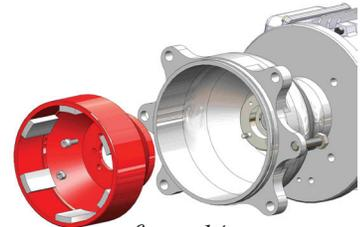

figure 14
**⚠ WARNING:** This pump should only be disassembled and assembled using the recommended procedures. The magnetic attraction is powerful enough to rapidly pull the motor end and the wet end together. ALWAYS use the jackscrews (item 14) to assemble/disassemble the pump. Do not place fingers between the mating surfaces of the motor and wet ends to avoid injuries. Keep the drive magnet and impeller assembly away from metal chips or particles.
1. Remove the two M8 hex nuts and lock washers (Items 21 & 22) & M8 hex head bolts and lock washers (Items 22 & 23). Pull the magnet drive hub (Item 8A) away from the shaft adapter (Item 8B). If the magnet drive hub is difficult to remove, you can thread (2) M8 hex head bolts (item 23) into the extra set of holes to use as jackscrews to pry it off. Make sure to apply equal turns to the bolts to pull the magnet drive hub off evenly. *See figure 14.*